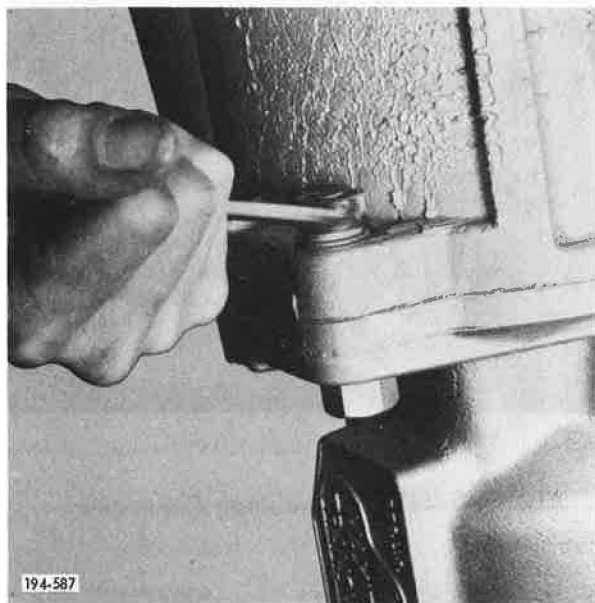

Figure 5-249. Loosening Dowel Bolt Nut
29. Loosen front case to rear case dowel bolt nuts. See Figure 5-249.